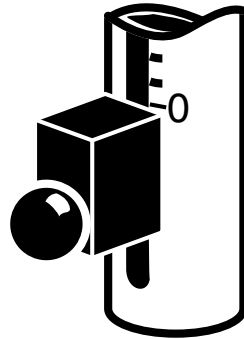

Fig. 2 Zero point adjustment.
- Adjust the guide tube so that the top of the guide piece/handle is at "0" (see Fig. 2). Fix the guide tube in this position.